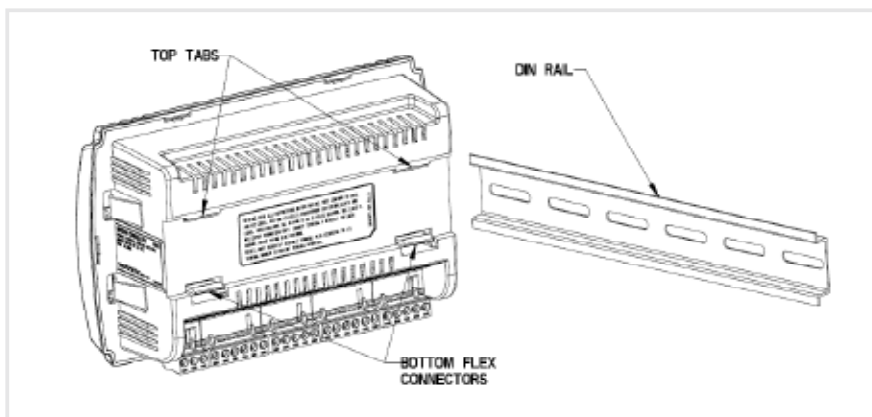

Figure 5: DIN Rail Installation
1. Holding the controller with its top tilted in towards the DIN rail, hook the top tabs on the back of the controller onto the top of the DIN rail. (see Figure 5 and Figure 6)